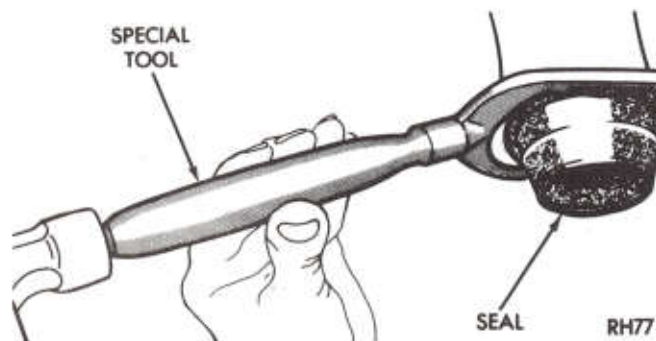

Fig. 8—Remove Extension Seal
(3) Remove oil seal with Tool C-3985-8 (Fig. 8).